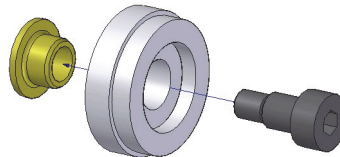

Figure 3-5 Idler-wheel assembly detail
- Press the plastic bushing (spacer) into the magnetized wheel, then slide the shaft screw through the wheel from the other side (see Figure 3-5 on page 33).